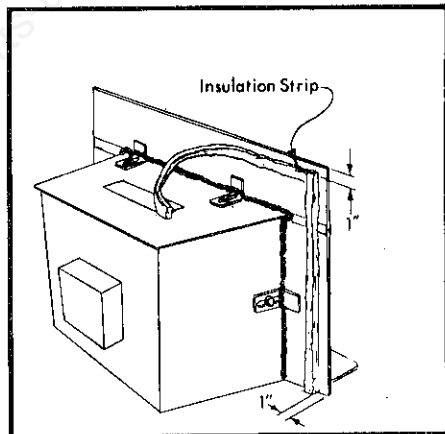

FIGURE 10 ATTACHING INSULATING STRIPS
2. (See Figure 10) Attach 1½" x 2" strip insulation around the back edge of the trim panels. Set the strip back 1" from the edge.
2. Place a flashlight up through the damper and onto the top of the stove. Visually check all the way around the trim panels for evidence of light seepage. Any seepage should be blocked with the use of additional fiberglass and RTV silicone until a tight seal is achieved. (See Figure 10)